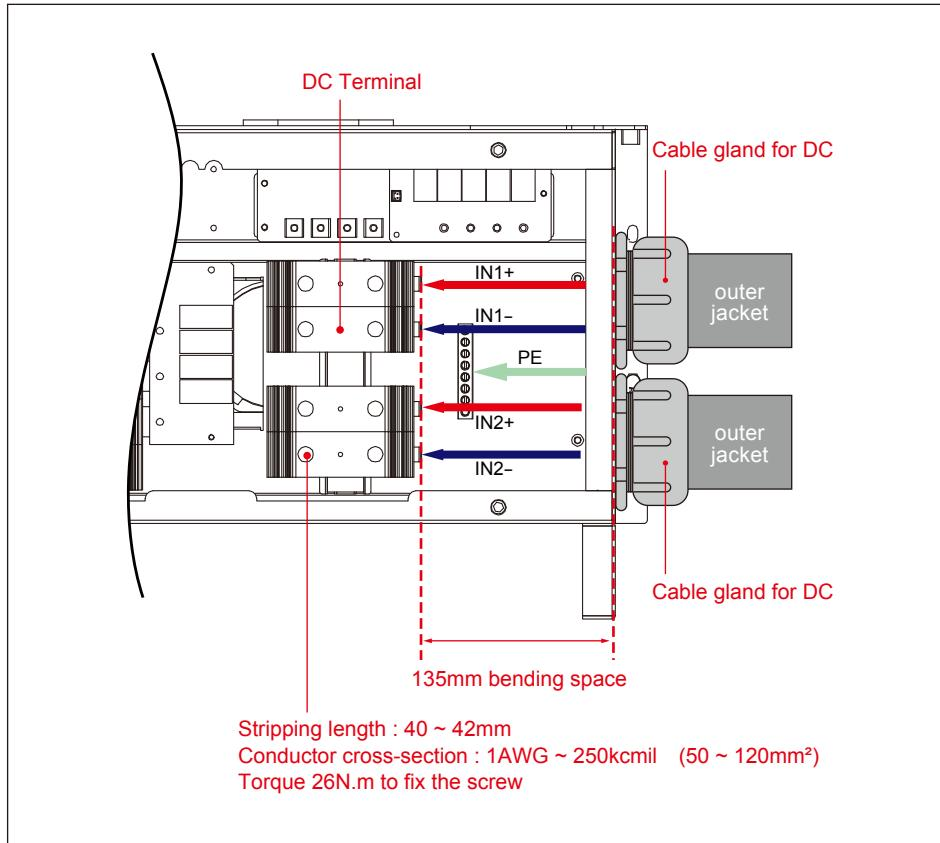

Figure 3-15 : Location for DC terminals for M88H_121
- DC Terminals connection as seen in **Figure 3-15**.